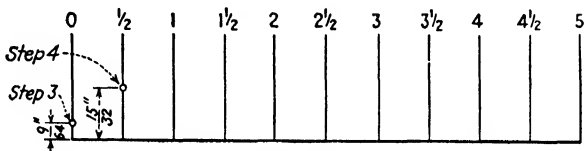

Fig. 177.
Step 3.—At station 0, the data shows that the upper camber is  $\frac{9}{64}$  in. above the datum line. Mark this point as shown in Fig. 177.